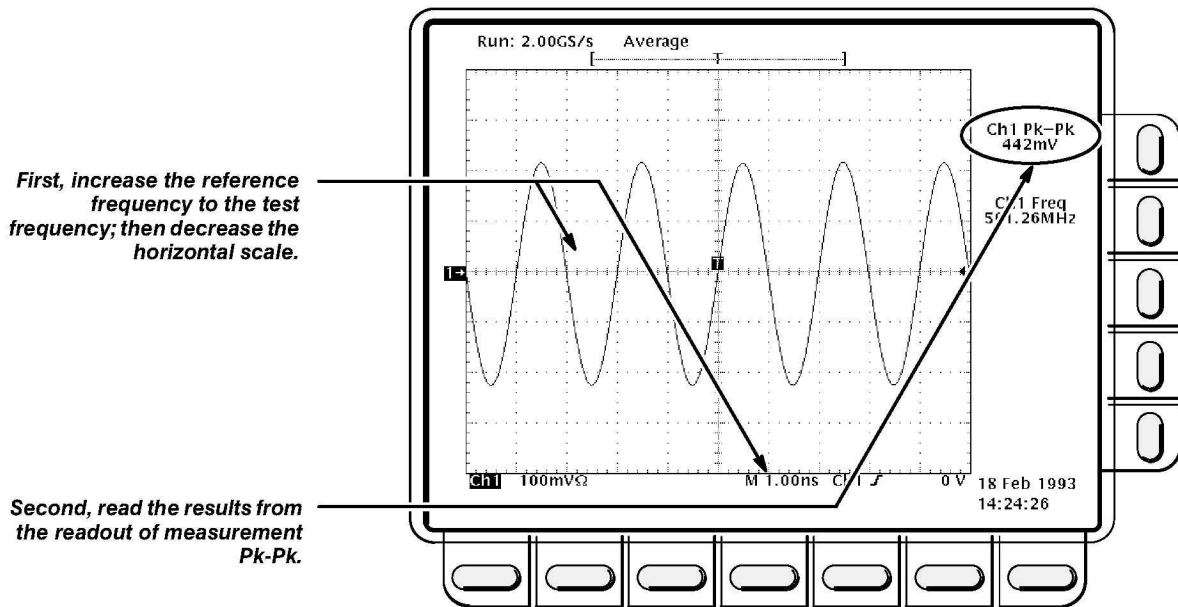

Figure 4-9: Measurement of Analog Bandwidth
- Read the results at the CHx Pk-Pk readout, which will automatically measure the amplitude of the test signal. See Figure 4-9.